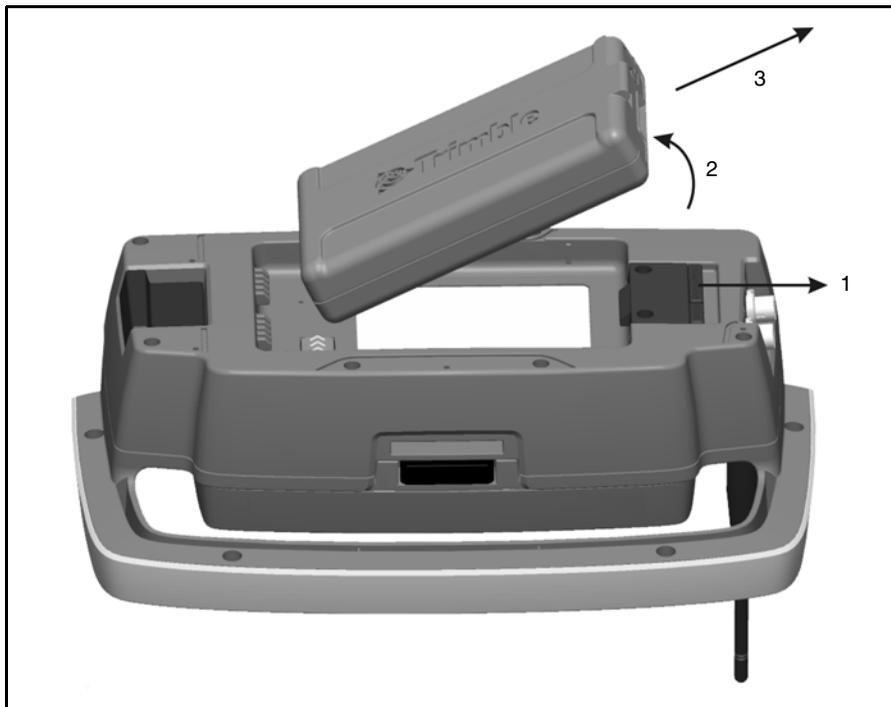

Figure 7.67 Detaching a battery from the Trimble Robotic Holder
1. Pull the battery lock mechanism away from the battery (1).
2. Lift up this side of the battery (2).
3. Remove the battery from the holder (3). See figure 7.67.